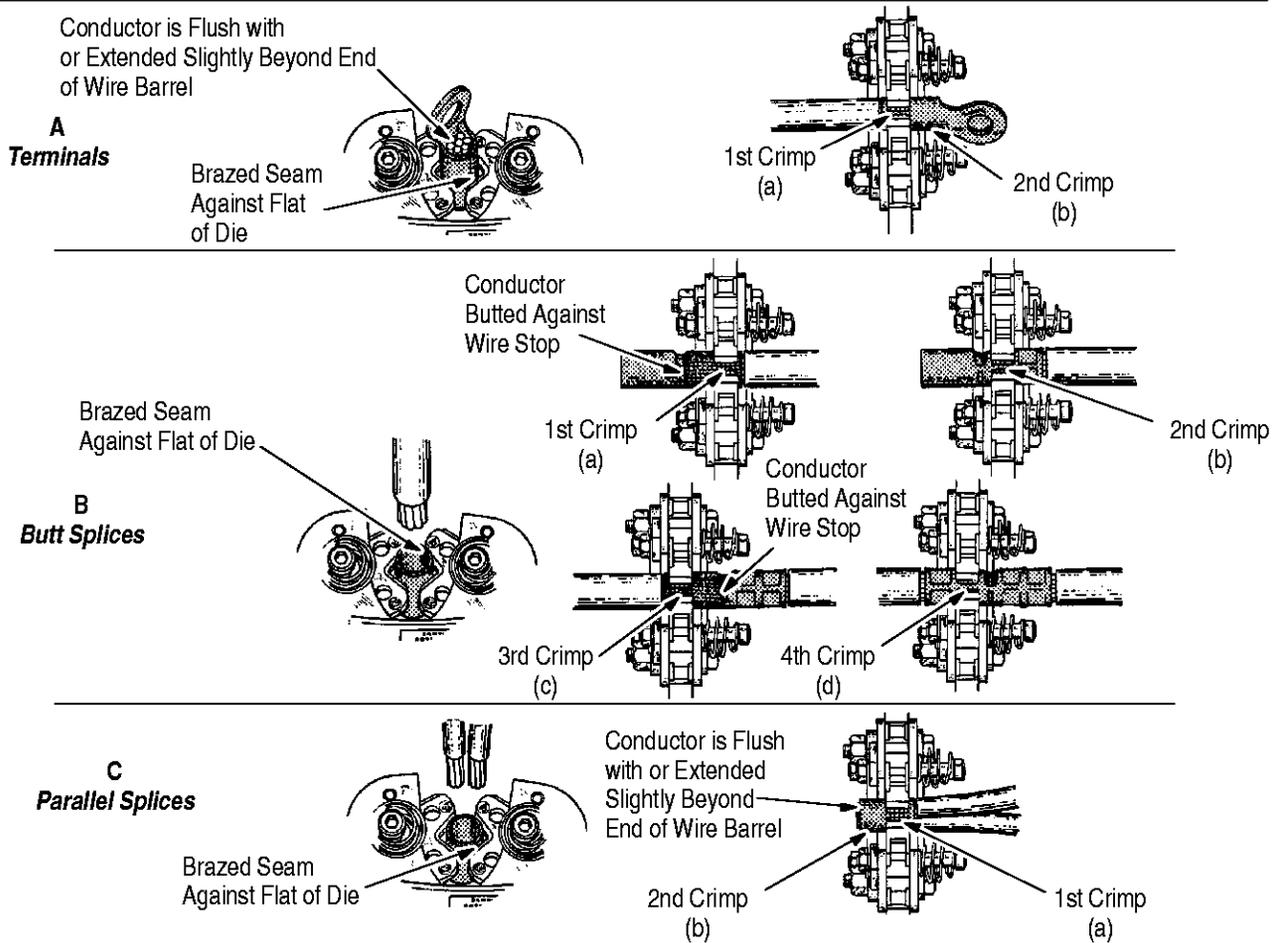

Figure 4
3.4. Performing a Dual Crimp on SOLISTRAND Terminals with Wire Size 2 and 1/0 (Figure 4)
NOTE For best results, position the brazed seam of the terminal against one of the "flats" of the dies, as shown in Figure 4. Make sure that the crimps do not overlap or go off either end of the wire barrel. Make sure that the wire size being used, the wire size stamped on the terminal, and the wire size embossed on the dies all correspond.
1. Position the end of the terminal or splice wire barrel in the dies as shown in Figure 4.
3.5. Performing a Dual Crimp on SOLISTRAND Butt Splices with Wire Size 2 and 1/0 (Figure 4)
5. Move the splice into position for the second crimp, as shown in Figure 4.
B. Third and Fourth Crimps (Figure 4)
3.6. Performing a Dual Crimp on SOLISTRAND Parallel Splices with Wire Size 2 and 1/0 (Figure 4)
For best results, position the brazed seam of the terminal against one of the "flats" of the dies, as shown in Figure 4. Make sure that the crimps do not overlap or go off either end of the wire barrel. Make sure that the wire size being used, the wire size stamped on the terminal, and the wire size embossed on the dies all correspond.